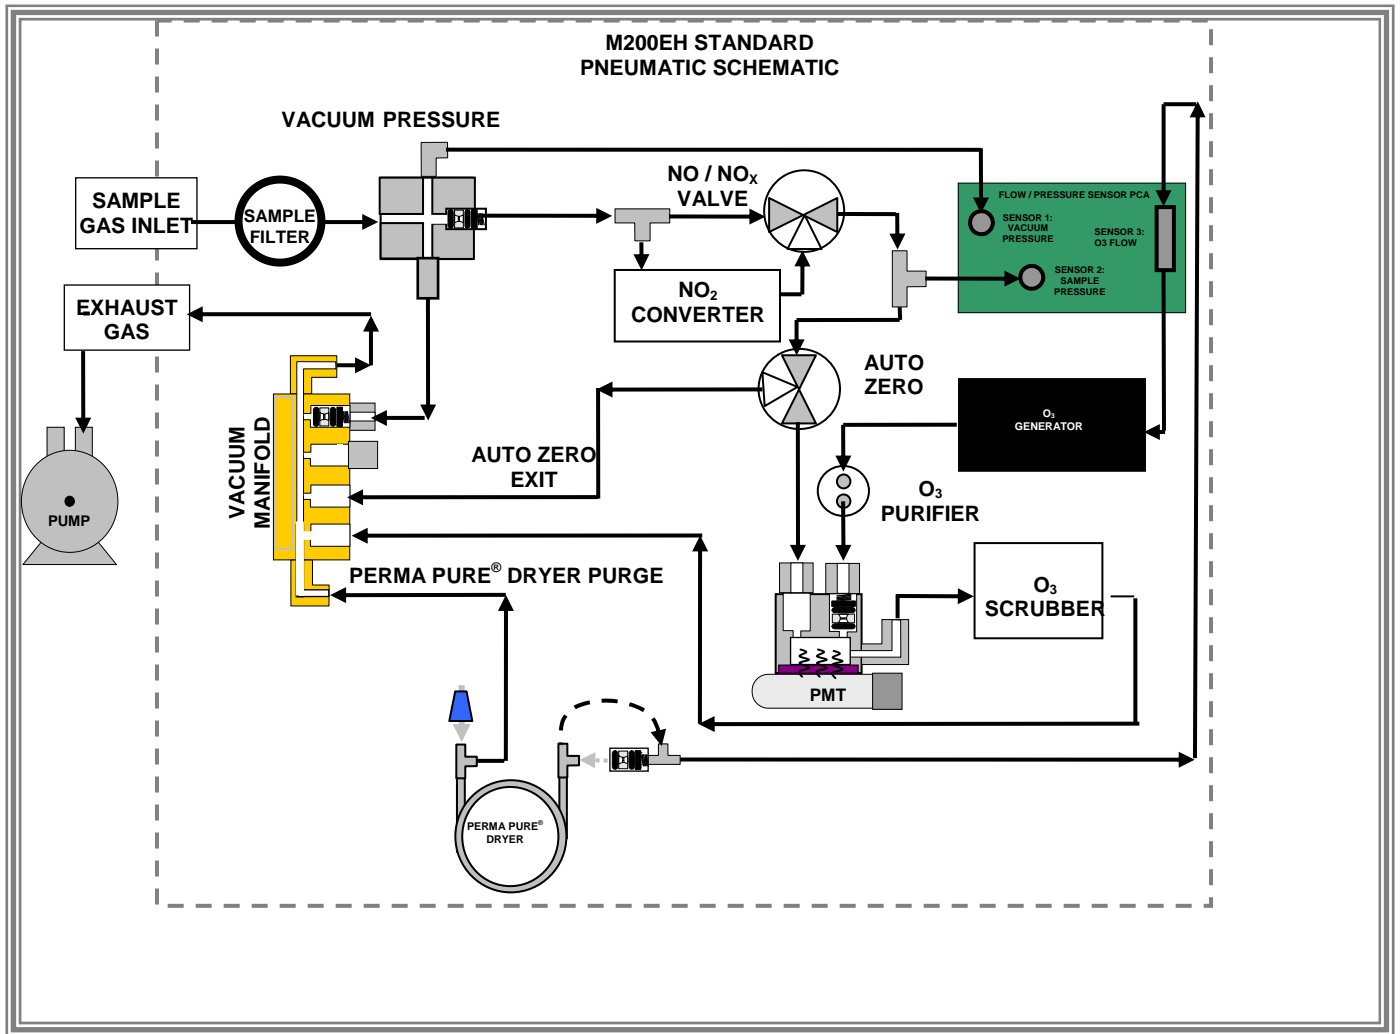

FIGURE 6. SHOWS PNEUMATIC CONFIGURATION BEFORE OXYGEN SENSOR INSTALLATION.
8. **Figures 6 and 7** show the pneumatic diagram before and after oxygen sensor installation.